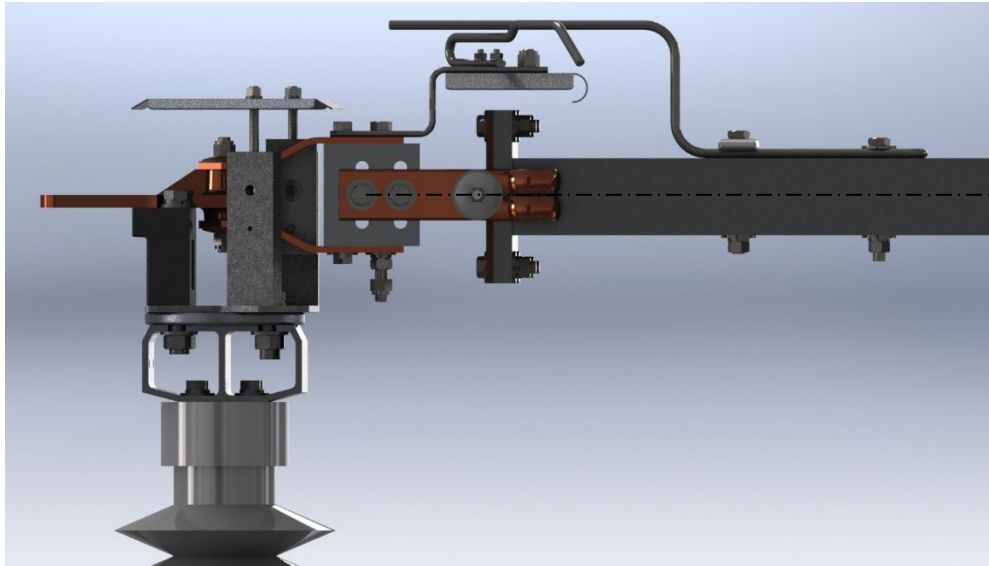

Figure 8: Blade Alignment
- 2) Ensure the centerlines of both blades are aligned. Blade should be centered  $\pm 1/8"$ . See Figure 8.